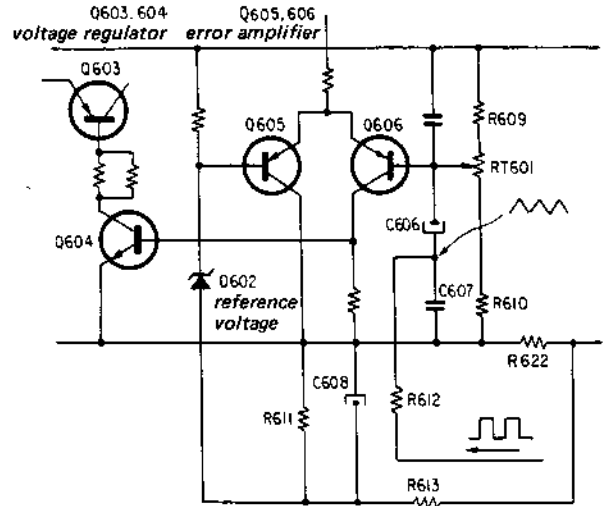
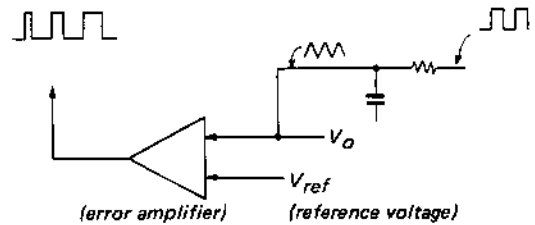

Fig. 9
Fig. 10
**4. PWM (Pulse-Width Modulation) Circuit (See Fig. 9)**
- The circuit diagram in Fig. 9 is simplified to the circuit diagram in Fig. 10.